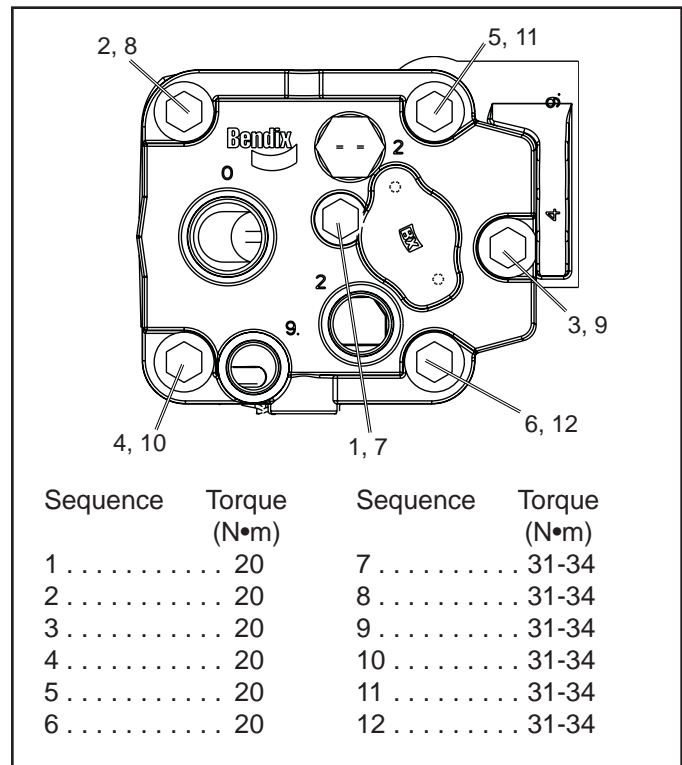

FIGURE 18 - CLOSED ROOM COMPRESSOR HEAD BOLT TORQUE SEQUENCE.
6. Install the 6 hex head cylinder head bolts and washers and snug them (finger tight), then torque the bolts in the sequence specified in Figure 18.